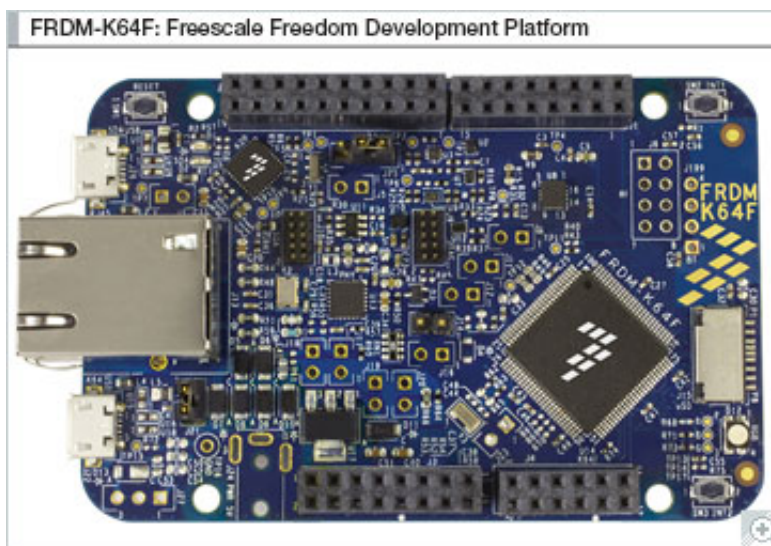

Figure 5. K64F Freedom Development Platform (FRDM-K64F)
- K64F Freedom Development Platform, Figure 5, based on the Kinetis K60 family MK64FN1M0VLL12 MCU